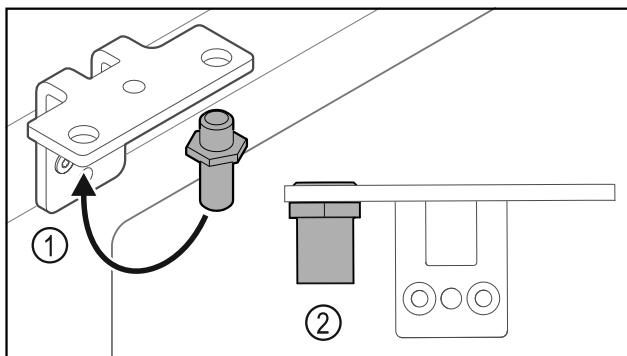

Fig. 17
- Put the pin back into the hinge Fig. 17 (1).
- Tighten the pin Fig. 17 (2) to a **torque of 12 Nm**.